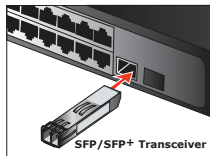

Figure 1: Insert the SFP/SFP+ Mini-GBIC Module
1. Power on the Switch and place the Switch on a flat surface. Install the new SFP / SFP+ Mini-GBIC module by inserting it into the slot and sliding it in until it stops (See **Figure 1**). Press it firmly until you hear the module snap into place. Never force, twist or bend the SFP / SFP+ Mini-GBIC module. The SFP / SFP+ Mini-GBIC module slides in smoothly and the Switch will automatically detect the new module.